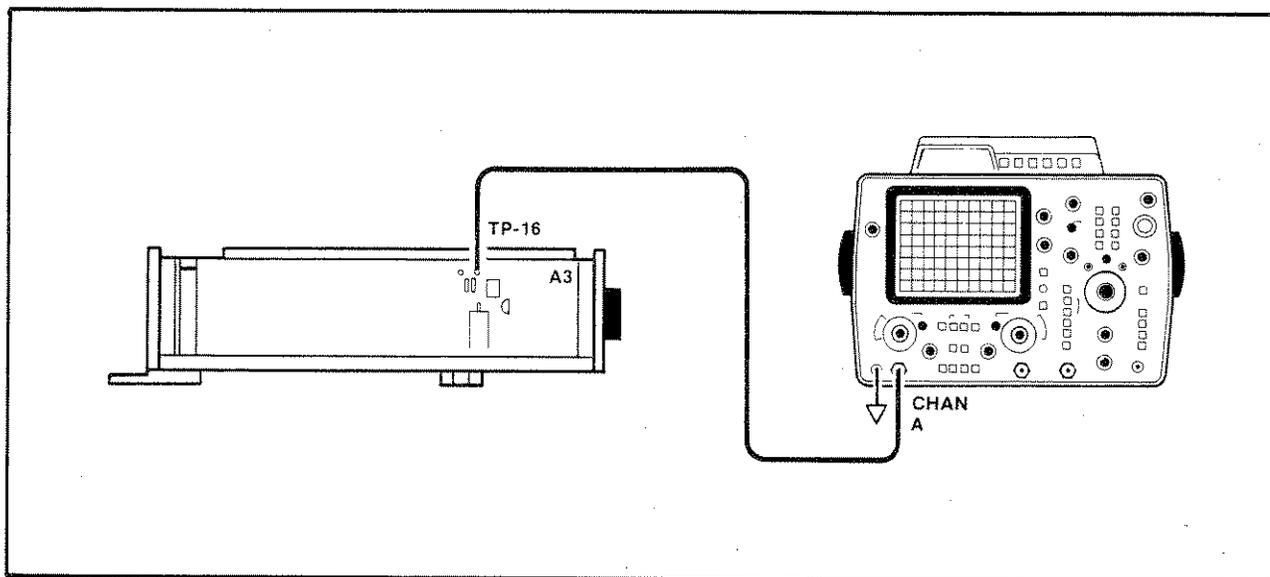

Figure 8-13. Quick Tuning Check Test Setup
- c. Connect a dc-coupled oscilloscope to A3TP16 on A3 as shown in *Figure 8-13*. Also see *Figure 8-24* (Component Locator) for test point locations.